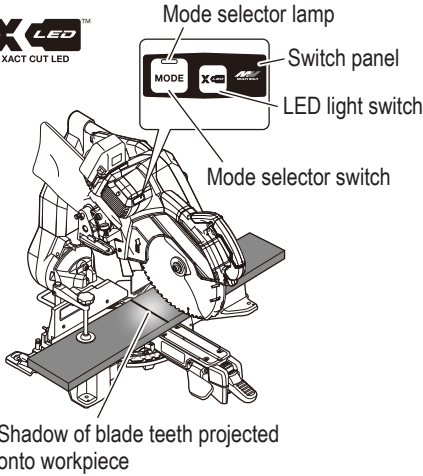

Fig. 28
14. LED lighting system (Fig. 28) [XACT CUT LED™]